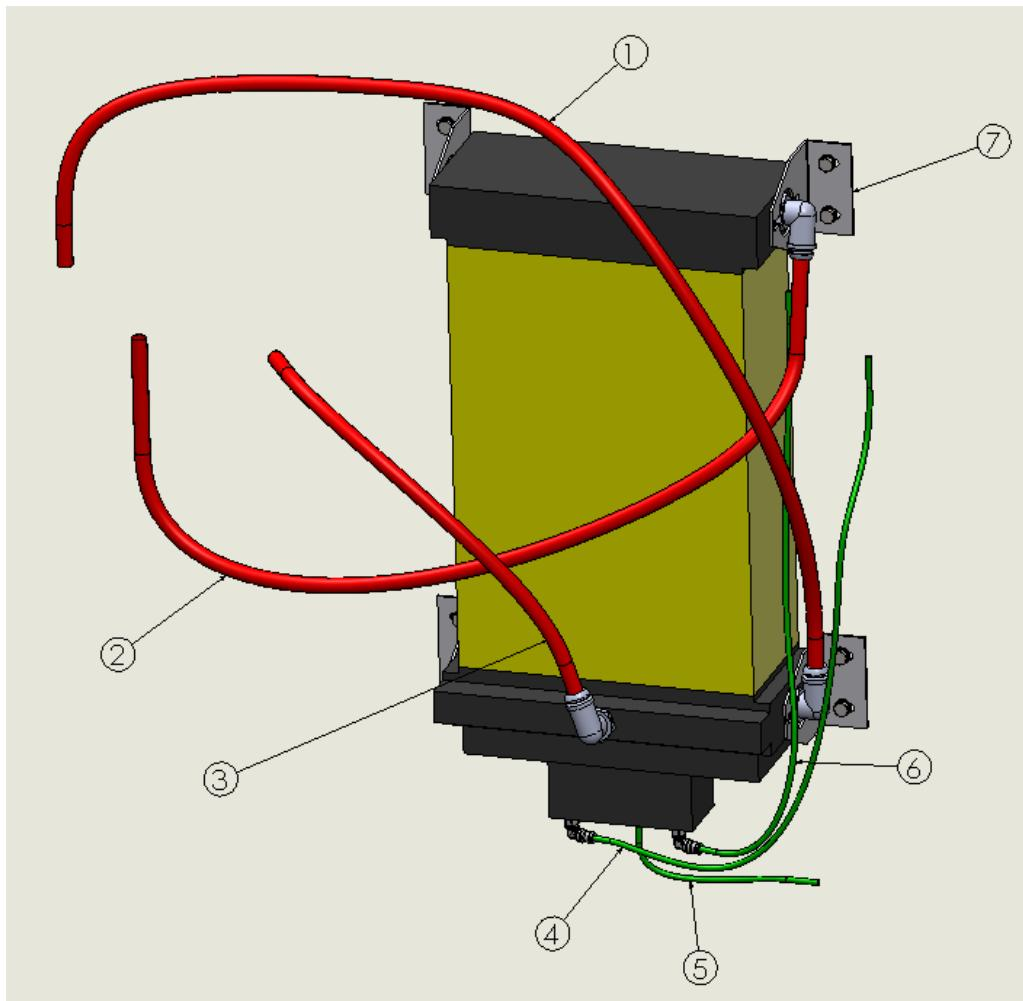

Figure 12 Hoses to disconnect when removing the dryer unit from the E Compressor
Disconnect nylon tubing from push in elbow connectors, **Figure 12 (1,2,3,4,5, and 6)**, first marking the tube and connection (see details of Dryer drawing). This will allow the 5th stage purifier to be removed. Remove 8 M6 bolts, washers and nuts from brackets (7) detaching the purifier from the base plate. Caution, hold purifier when removing the last bolt to avoid the assembly falling out and causing injury. Carefully maneuver dryer until it is clear of cabinet (the 5th stage purifier weighs 21.2 Kg).